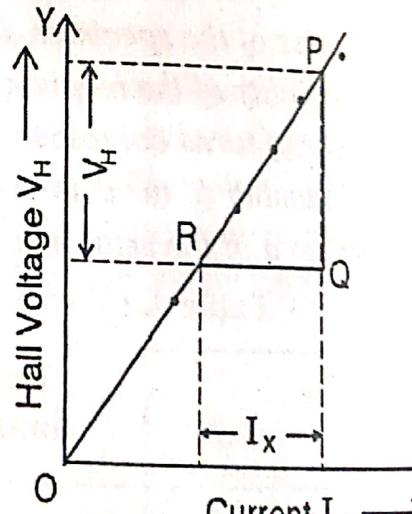

Fig. 12.5
**Calculations :** A graph is plotted by taking  $I_x$  along X-axis and the corresponding Hall voltage  $V_H$  along Y-axis, which will be a straight line as shown in Fig. 12.5.